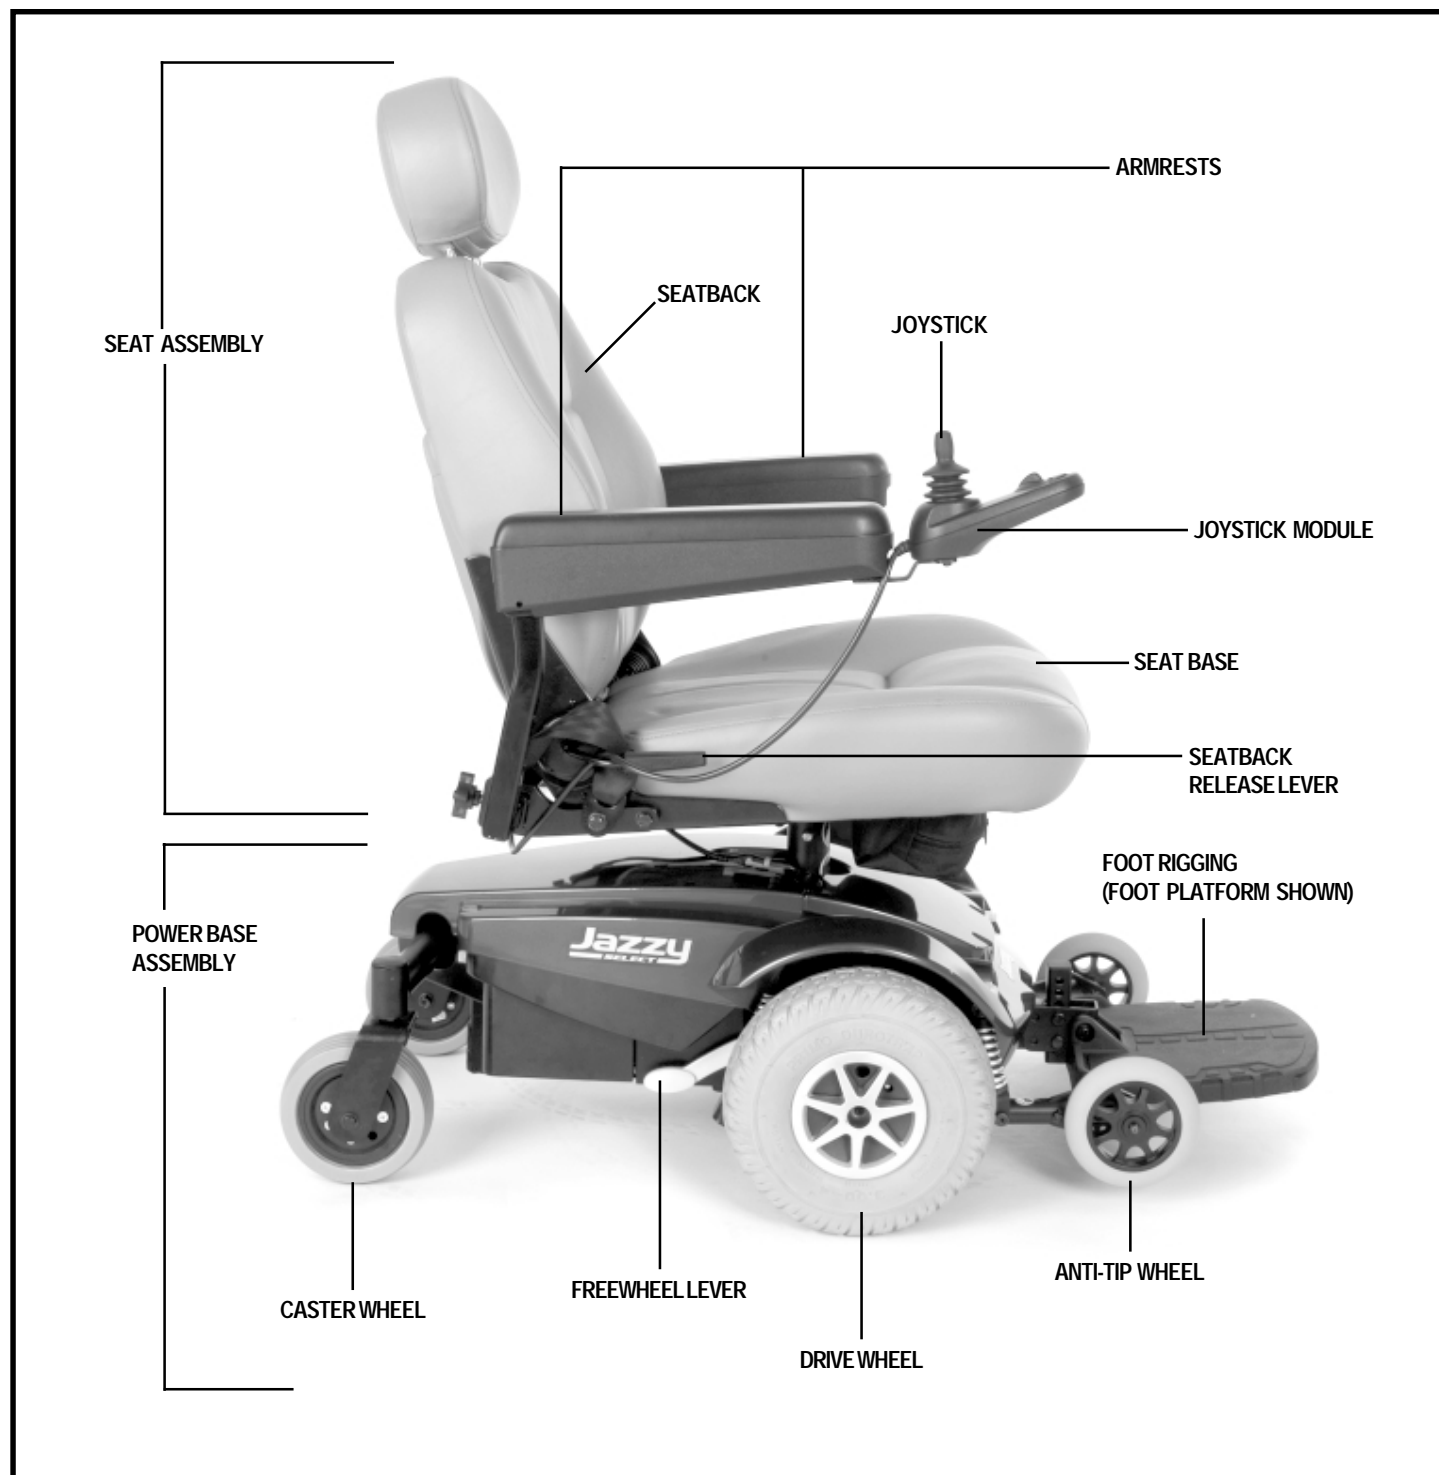

Figure 5. The Jazzy Select
The Jazzy Select has two main assemblies: the seat assembly and the power base assembly. See figure 5. Typically, the seat assembly includes the armrests, seatback, and seat base. The power base assembly includes two motor/brake assemblies, two drive wheels, two caster wheels, two anti-tip wheels, two batteries, and wiring harnesses. See figures 5, 6, and 7.
1. Locate the lever on each side of the power base. See figure 5.